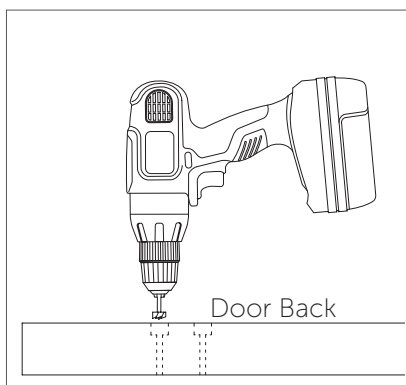

Figure 4
5. Turn the door over. Using a 1-1/8" Forstner bit*, drill a 7/16" deep hole into each pilot hole. (Figure 4).